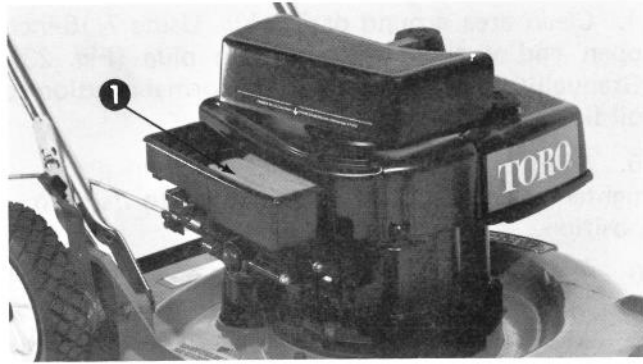

Figure 19
3. Look at top of air cleaner element (Fig. 19). If it is dirty, the element must be removed from air cleaner body (Fig. 19) and cleaned.
- D. Place element into the air cleaner body (Fig. 19).